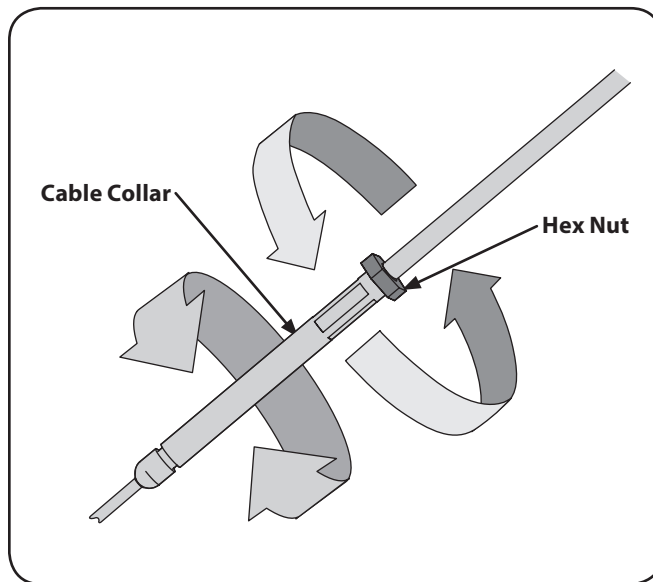

Figure 3-8
2. Adjust the forward clutch cable by loosening the hex nut. See Figure 3-8.
3. Turn the cable collar section one or two turns to increase or decrease tension on the cable. See Figure 3-8.
4. Retighten the lock nut against the cable collar. See Figure 3-8.